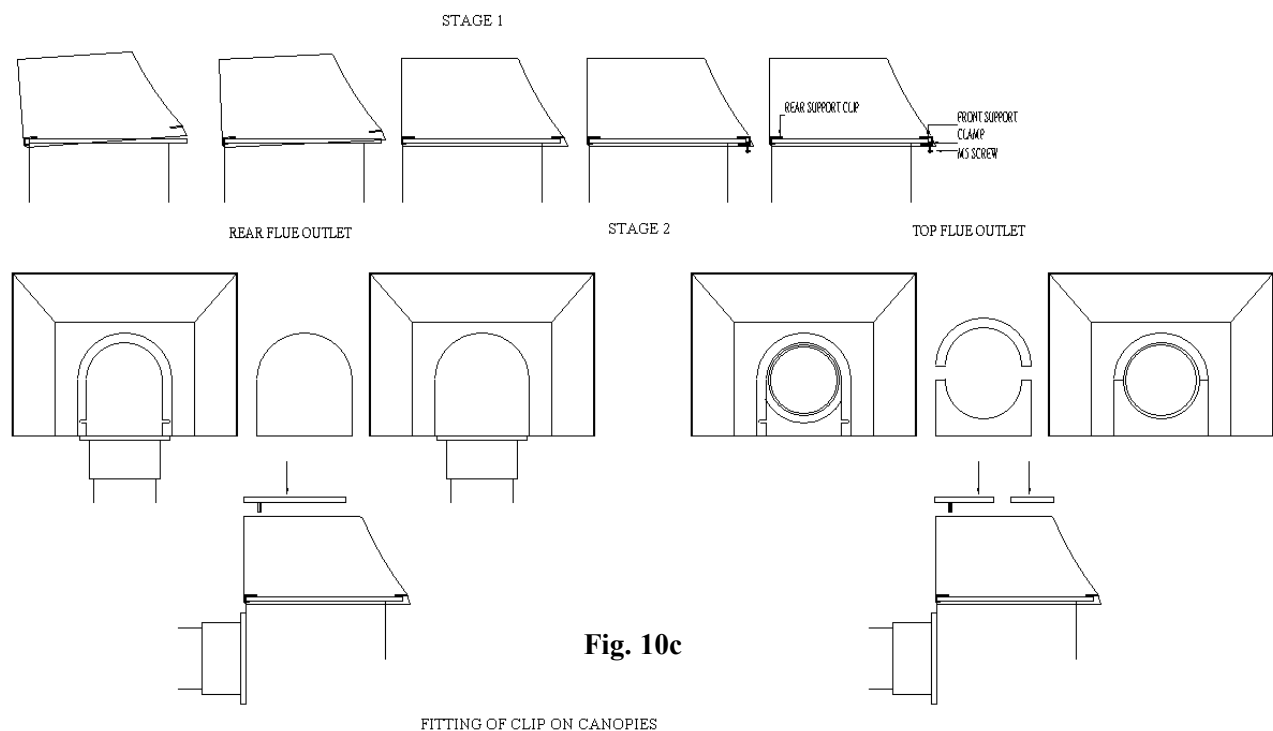

Fig. 10c
- To fit the interchangeable canopy (Fig 10c):